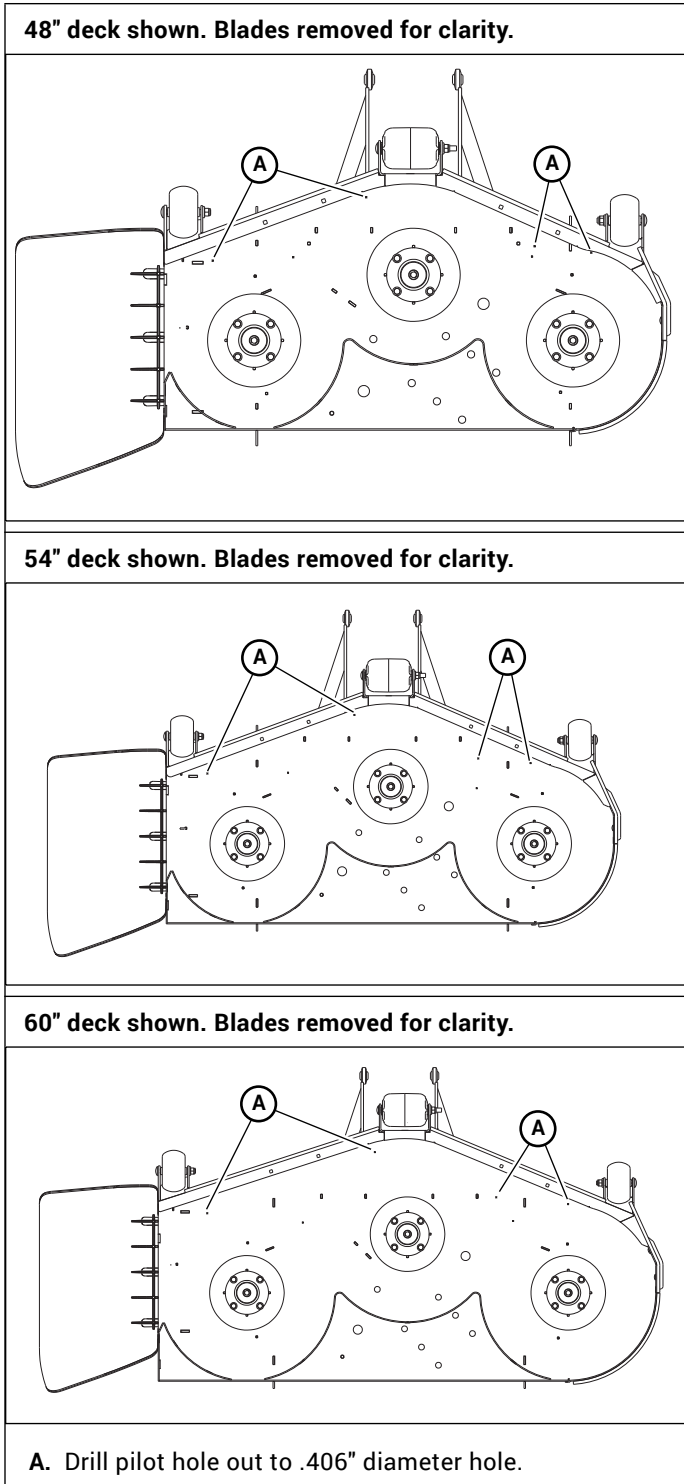

Figure 3-1
3. Locate the four pilot holes shown in Figure 3-1. Enlarge the pilot holes using a .406" diameter drill bit.